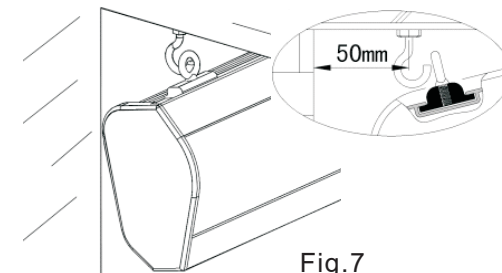

Fig.7
2. Tilt the screen casing up at a certain degree so that it is easy to hang the rings to the hook. And please make sure there is space between the hook and wall for installing the screen, suggested distance is 50mm as Fig 7.